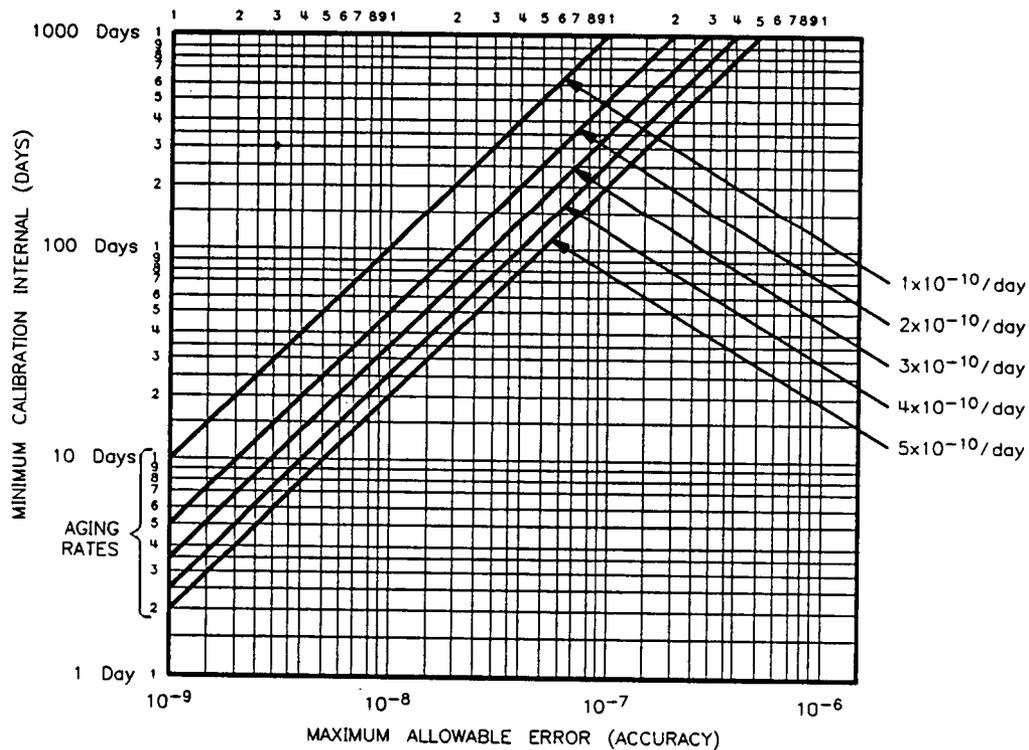

Figure 3-3. Accuracy Versus Adjustment Interval
This procedure adjusts the frequency accuracy of the internal 10 MHz time base. This adjustment should be done on a regular basis if absolute frequency accuracy is important (see Figure 3-3.)
Figure 3-3 shows the required adjustment interval to maintain a given accuracy. If you know the aging rate, you can determine a more precise adjustment interval.
1. Find the line on Figure 3-3 that corresponds to the 10 MHz timebase oscillator aging rate (to determine the aging rate, see "Performance Tests").